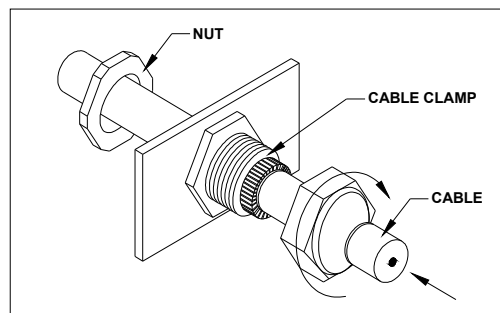

Figure 5. Installation Example of Cable Clamp
- E. Route wires through the knock-outs and clamps refer to installation example (see Figure 5).